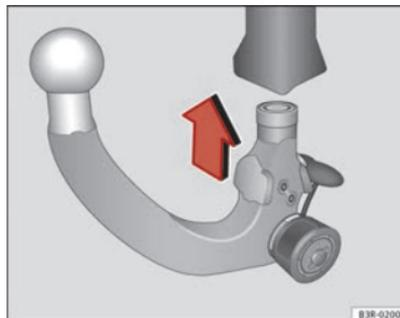

Fig. 160 Removable towing bracket: Inserting the ball joint
- With the spring mechanism in the ready position, insert the ball joint into the mounting fixture and push it upwards ⇒ Fig. 160 in the direction indicated (arrow) ⇒ **(A)**. It should lock into position automatically. You should now clearly hear it click into place.